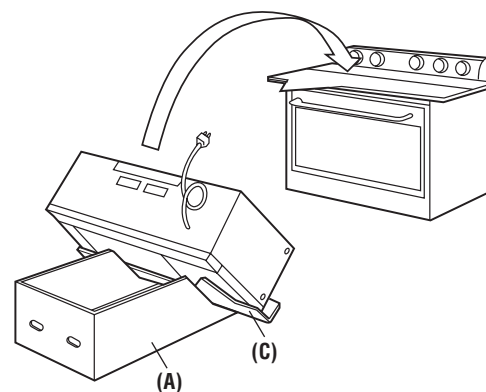

Figure 21
1. Place cut portion of carton (B) on top surface of range. Protection of the range cooking surface is recommended. A protective drop cloth may also be used to cover the top of the range.
2. Place carton portion (C) on portion (A); then place oven as shown in Figure 21.
3. Place the oven and the carton portions together on the top of the range covered with (B). Slide carton portion (A) toward backsplash until stops. Align the lower back edge of the oven with the mounting plate.